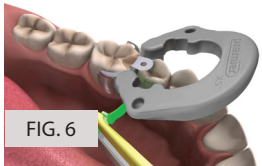

FIG. 6
**Dual-Wedging:** The Premier X5™ system allows for the insertion of a second wedge, to prevent any leakage, to be placed from the opposite side without removing the ring. The second wedge should be inserted underneath the first wedge. (Figure 6)